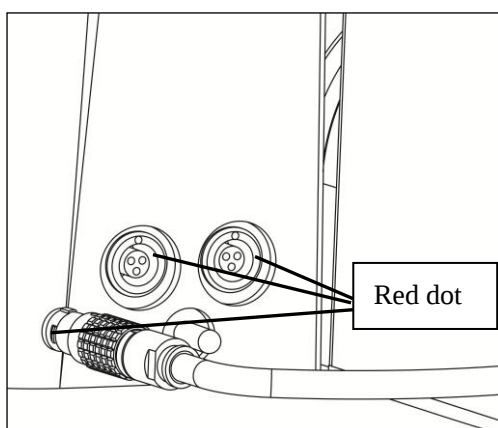

Fig 3
3.3 Light Socket(fig 3)
As shown in figure 3, the light socket and